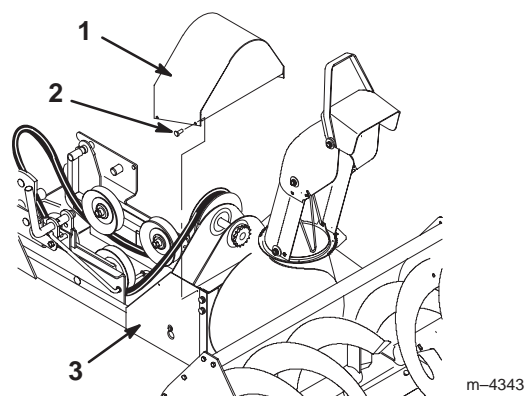

Figure 8
5. Attach the pulley cover to the snowthrower frame assembly with four, #10 x 1/2 in. (13 mm) screws (Fig. 8).